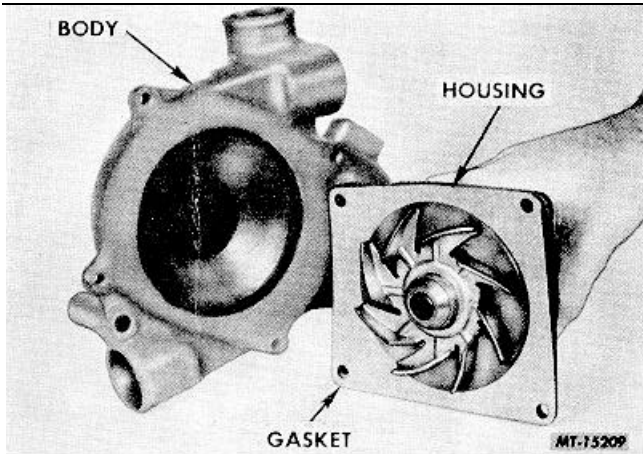

Fig. 130 Separating Pump Housing from Pump
2. Remove the pump housing-to-body bolts and lockwashers and separate the housing from body, Fig. 130. Discard gasket.